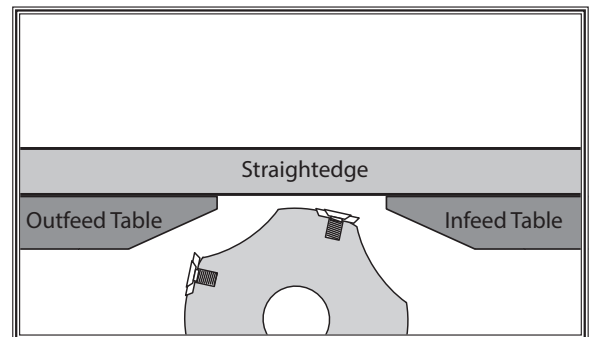

Figure 45. Example of infeed and outfeed table height set evenly.
- Place straightedge halfway across infeed and outfeed tables, and adjust infeed table height even with outfeed table, as shown in **Figure 45**.